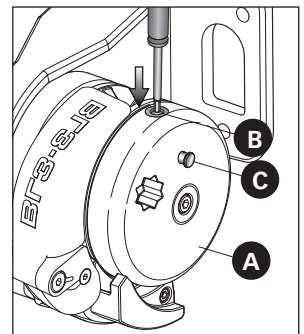

FIG. 3
- Push the pin **B**, into the center of the gypsy with the aid of a suitable tool (as shown in fig. 3).